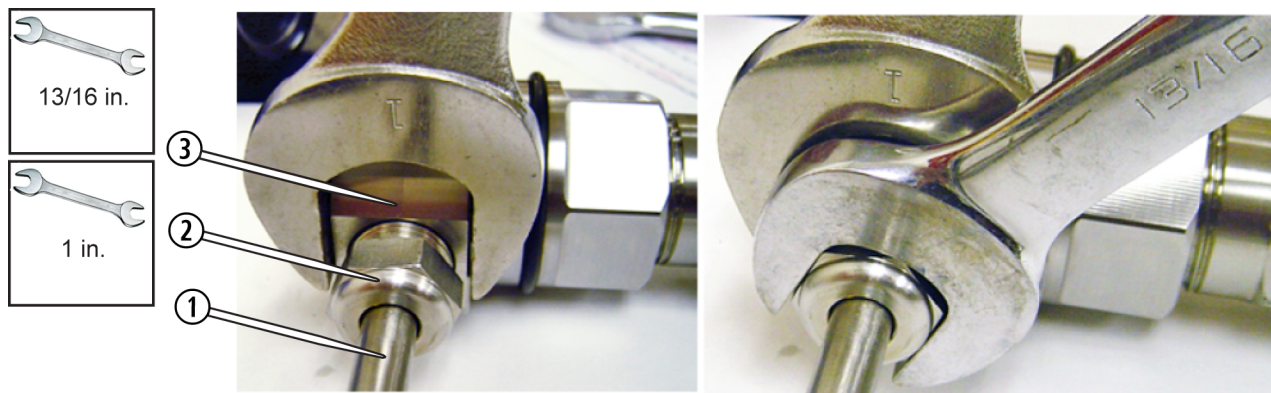

Figure 4
8. Remove the **valve gland nut** from the **fitting ring** (Figure 4 ③) and carry the **Dual On/off Valve Assembly** to a clean work area for rebuilding.